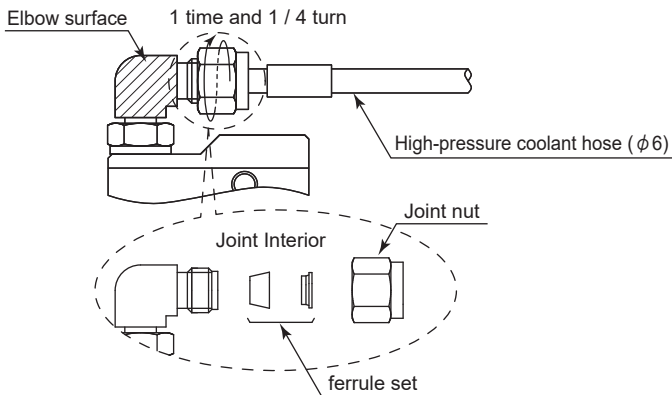

Fig. 12
- (2) Fit an adjustable wrench on the elbow surface (shaded area) of the high-pressure coolant fitting to hold it in place, and use another adjustable wrench to tighten the joint nut 1 - 1 / 4 turns. (Fig. 12)